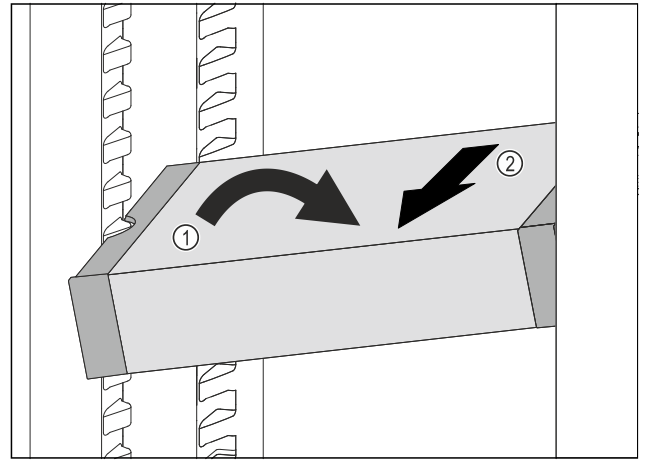

Fig. 102
- ▶ Set VarioSafe in refrigerator compartment at an angle. *Fig. 102 (1)*
- ▶ Take VarioSafe out to the front. *Fig. 102 (2)*